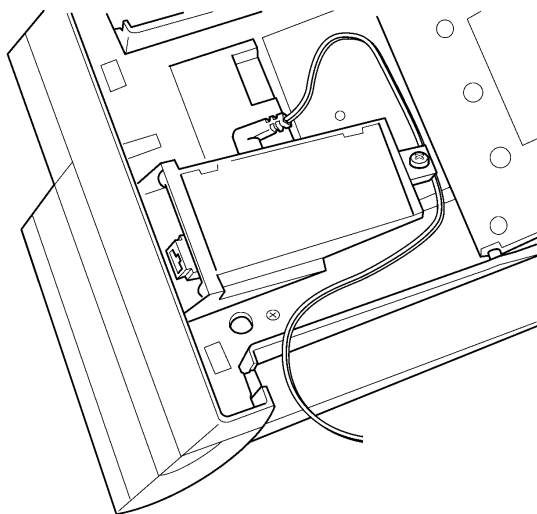

Figure 6-47: Leading the Telephone Cord out from the Unit
4. Plug the cord of the ACA-UA Unit (AC adapter) into the jack on the APR-UA Unit. Lead the telephone cord out through the groove in the base as shown in *Figure 6-47: Leading the Telephone Cord out from the Unit*.